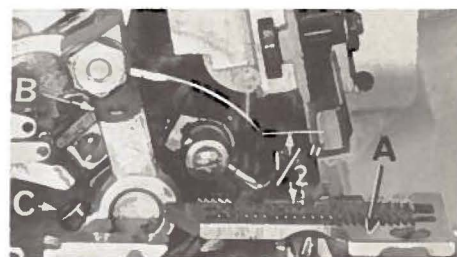

Fig. 3
With throat plate assembled in position, needle should center in the front end of needle slot. When needle is at high position, needle point should be set 1/2 inch above throat plate (A, Fig. 3). To align needle or set the height above the throat plate, move needle driving arm (B, Fig. 3) by loosening clamp screw (C). Remove throat plate.